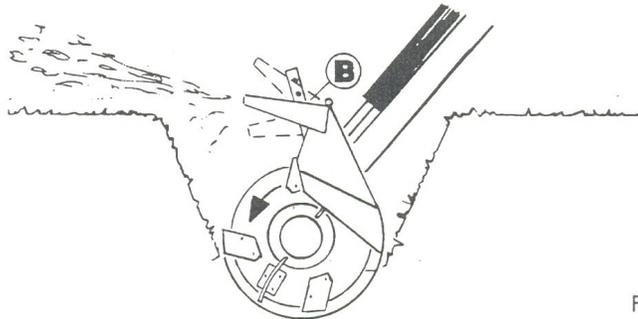

FIG. 9
- Check that the deflector (B) is in working order
- Position the ditch cleaner as shown in figure 9 and move forwards at a very low speed (about 0.5 km/h) whilst working.